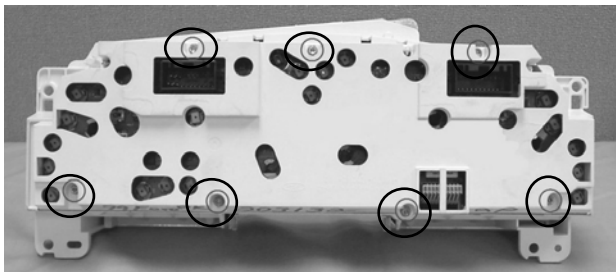

Figure 4
3. Remove seven T-15 brass screws from the original rear cluster cover and remove the cover to expose the circuit board (See figure 4).